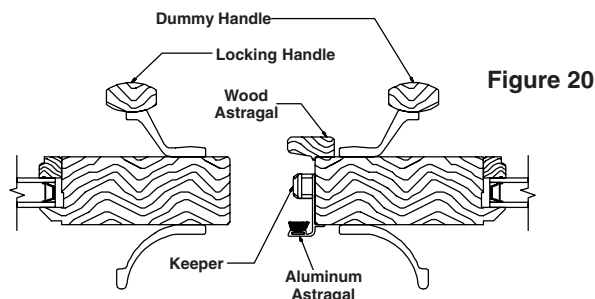

Figure 20
Apply a bead of caulk to the back of the aluminum astragal along the entire length of the part. Attach aluminum astragal to the exterior of the panel with the dummy handle using the #8 x 3/4" flat head screws in the pre-drilled holes (figure 20).
7. Measure the distance from the head weatherstrip stop to the top of the door sill. Cut the wood astragal 1/8" shorter than this measurement. Use glue and finish nails to attach the astragal to the interior edge of the panel with the dummy handle. See Figure 20.